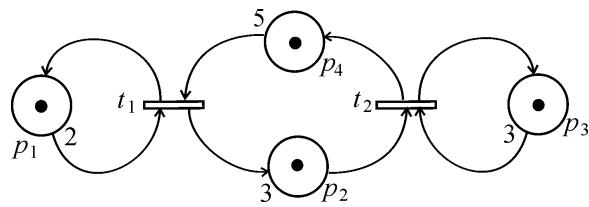

Figure 2.12: Petri net of the bus system
We consider a public transport system of buses with 4 lines and 4 buses. There are only two stations where travelers can change lines. This system can be represented by a Petri net (see Figure 2.12). Each token corresponds to a bus. The places p_1, p_2, p_3, p_4 represent the lines. These places are composed of a number which corresponds to the minimum amount of time that the token must remain in its place (this corresponds to the transit time). The transitions t_1, t_2 ensure synchronization. They are only crossed when each upstream place of the transition has at least one token which has waited sufficiently long. In this case, the upstream places lose a token and the downstream places gain one. This structure ensures that the correspondence will be performed systematically and that the buses will leave in pairs.
- 1) Let us assume that at time $t = 0$, the transitions t_1 and t_2 are crossed for the first time and that we are in the configuration of Figure 2.12 (this corresponds to the initialization). Give the crossing times for each of the transitions.